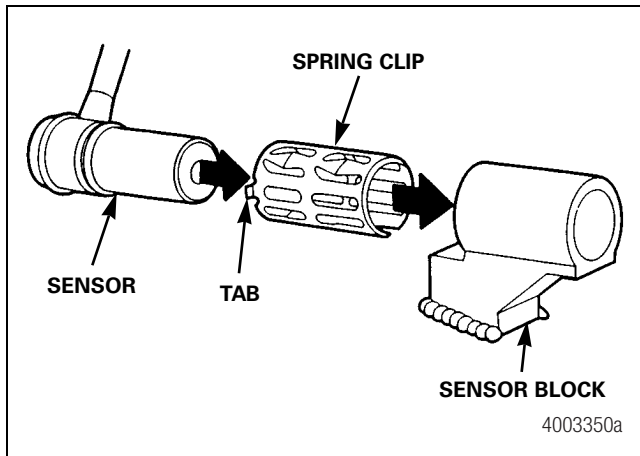

Figure 13.5
- Sensor Spring Clip — Retains the sensor in the sensor block. Figure 13.5.